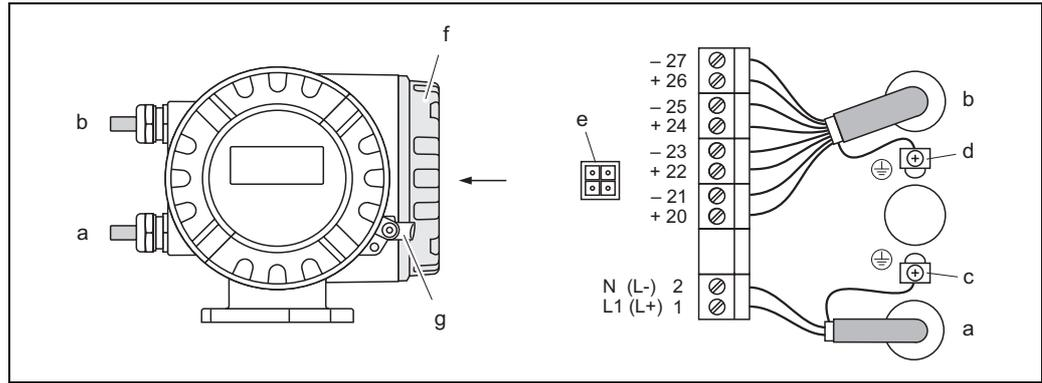

Fig. 18: Connecting the transmitter (aluminum field housing). Cable cross-section: max. 2.5 mm2
- Wiring diagram (aluminum housing) → Fig. 18